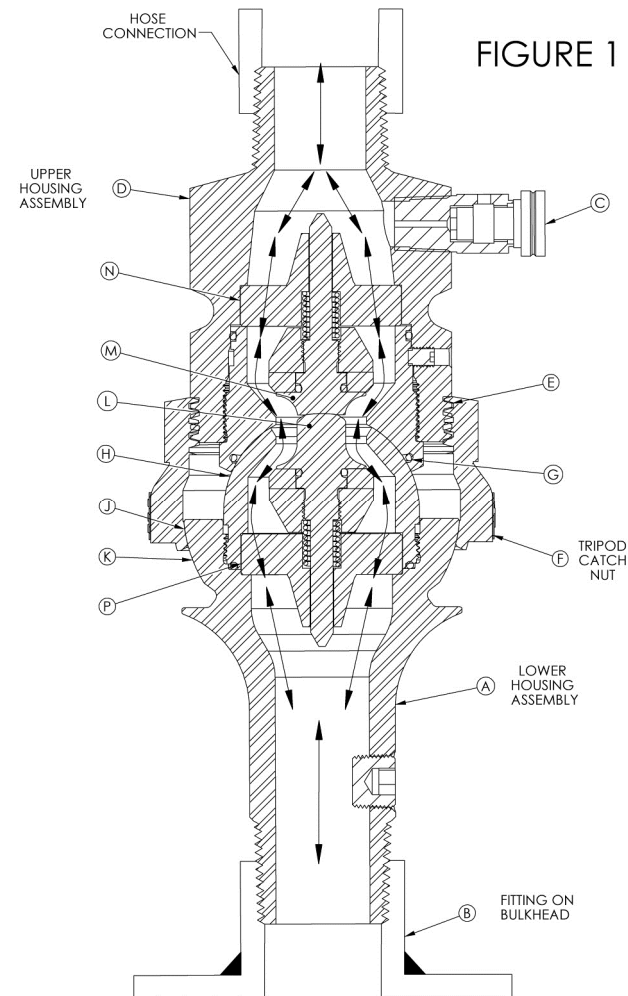

FIGURE 1
The Tri Pod is typically installed on the bulkhead between the storage tank and the transport or bobtail. **Figure 1** shows a TP1 Tri Pod in cross section. The Tri Pod Lower Housing Assembly (A) is tightened into the Bulkhead Fitting (B). The Tri Pod must be installed in the vertical position for a horizontal pull to release the coupling. The Upper Housing Assembly (D), has an Integral Bleeder (C), which is used to vent trapped liquid after a pull away. The Upper Housing (D), is threaded into the hose connection. The Upper Housing Assembly (D) is threaded at (E) to receive the catch nut (F), which when tightened traps the Tripod Upper and Lower Housing Assemblies (A) and (D), into sealing engagement.